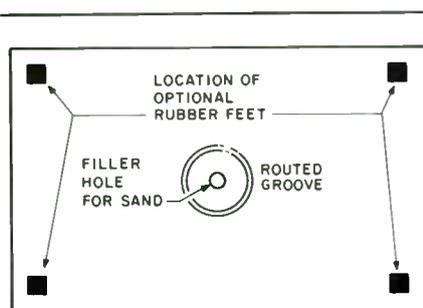

FIGURE 1: Cut the stand tops 1 inch bigger than your cabinets' depth and width dimensions.
**CONSTRUCTION.** Start by measuring the width and depth of your cabinets. Cut two pieces of particle board 1 inch bigger than your cabinets' depth and width dimensions (i.e., if your cabinets measure 12 by 14, make the two pieces 13 by 15). These will be the tops of the stands (Fig. 1). Now cut two more pieces of particle board, this time making them 4 inches bigger than your depth and width measurements
Set the PVC pieces aside and locate the center point of one particle-board piece. Using your router and router guide, route a 3/8-inch-deep circular groove of the same diameter as your PVC pipe (Figs. 1 and 2) in the particle board. If you do not own a router guide, Michael Boulais explains how to make one inexpensively in his Dynaudio construction article (SB 1/83, p. 7). If you are using 1/8-inch-wall pipe, a 1/8-inch rabbet bit makes a nice groove into which the tube will fit nicely. Repeat this procedure for the remaining three pieces.
After this dries, drill a 3/8-inch hole through each of the smaller pieces of board (the tops) at its center (Fig. 1). Fill the grooves (but not the hole) with